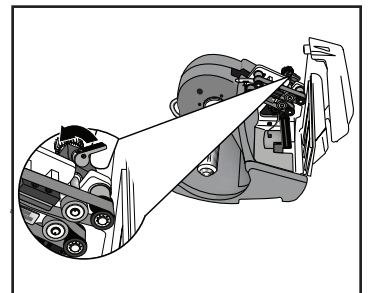

Figure 18
3. Lift Belt Release lever to loosen Seal Belts. (See Figure 18)